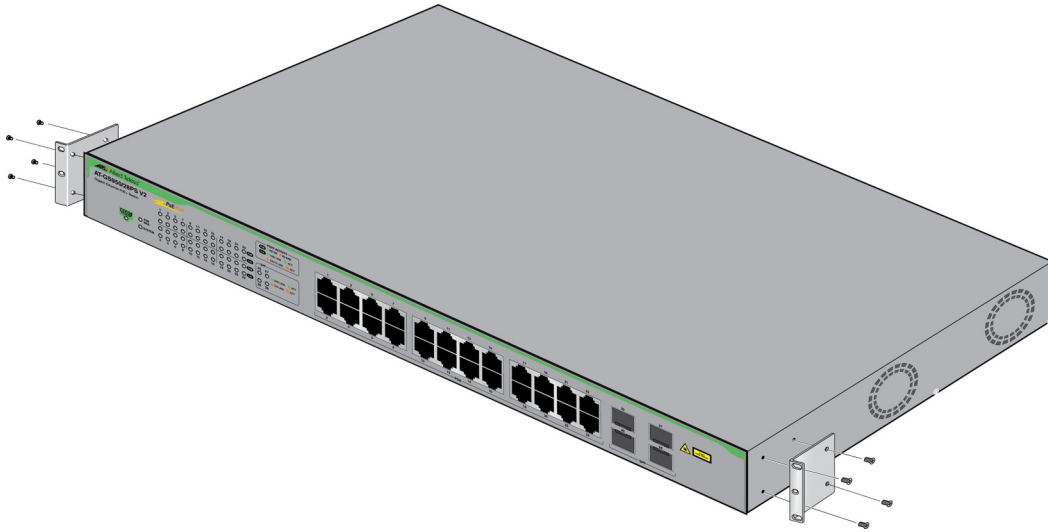

Figure 22. Attaching the Equipment Rack Brackets
3. Attach the two rack mount brackets to the sides of the switch in the selected positions, with the eight M4x6mm screws included with the unit. Figure 22 on page 54 shows the brackets positioned so that the front panel is even with the front of the equipment rack.